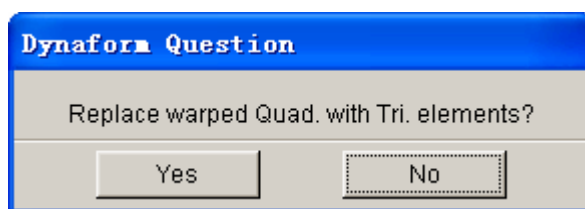

Figure 5.5.7 DYNAFORM Question dialog box
2. If elements do not pass the criteria, a eta/DYNAFORM QUESTION dialog box as illustrated in Figure 5.5.7 is displayed.